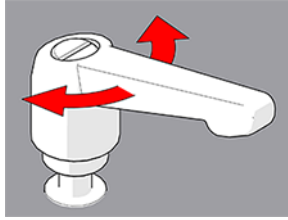

Figure 3-46 Rotate handle
2. Continue to pull while rotating the lever in the appropriate direction (see Figure 3-46 on page 71).